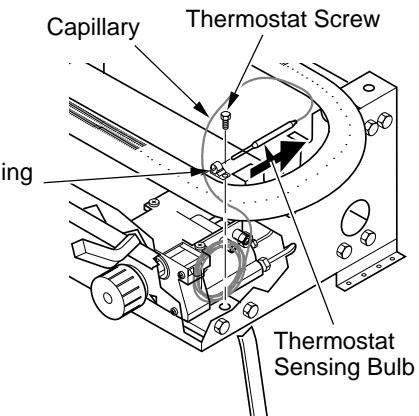

Figure 35 - Removing Thermostat Sensing Bulb
2. With 1/4" hex driver or socket, loosen the thermostat screw. Carefully slide the thermostat sensing bulb out of the retaining clamp (see Figure 35).